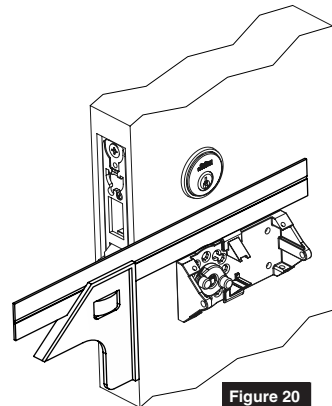

Figure 20
7. Fully tighten 1" lock mounting combination screws then level out chassis using a square. (Figure 20)